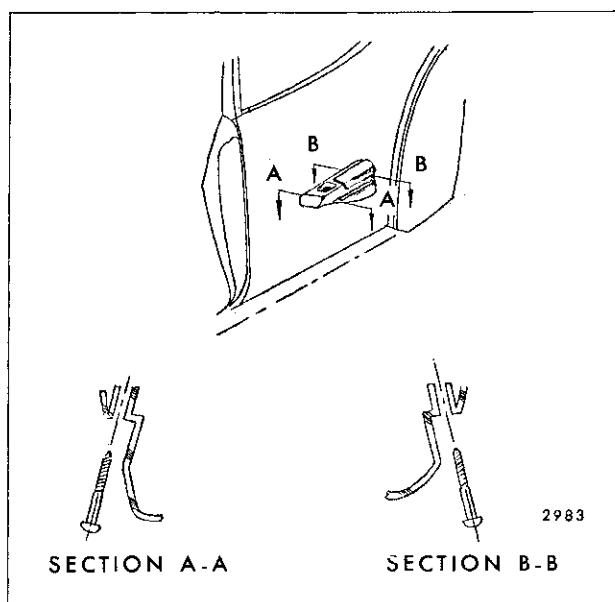

Fig. 14-16—Applied — Type Quarter Arm Rest
- A. Applied arm rests, which are retained by two screws inserted through the arm rest base into the quarter inner panel (Fig. 14-16).